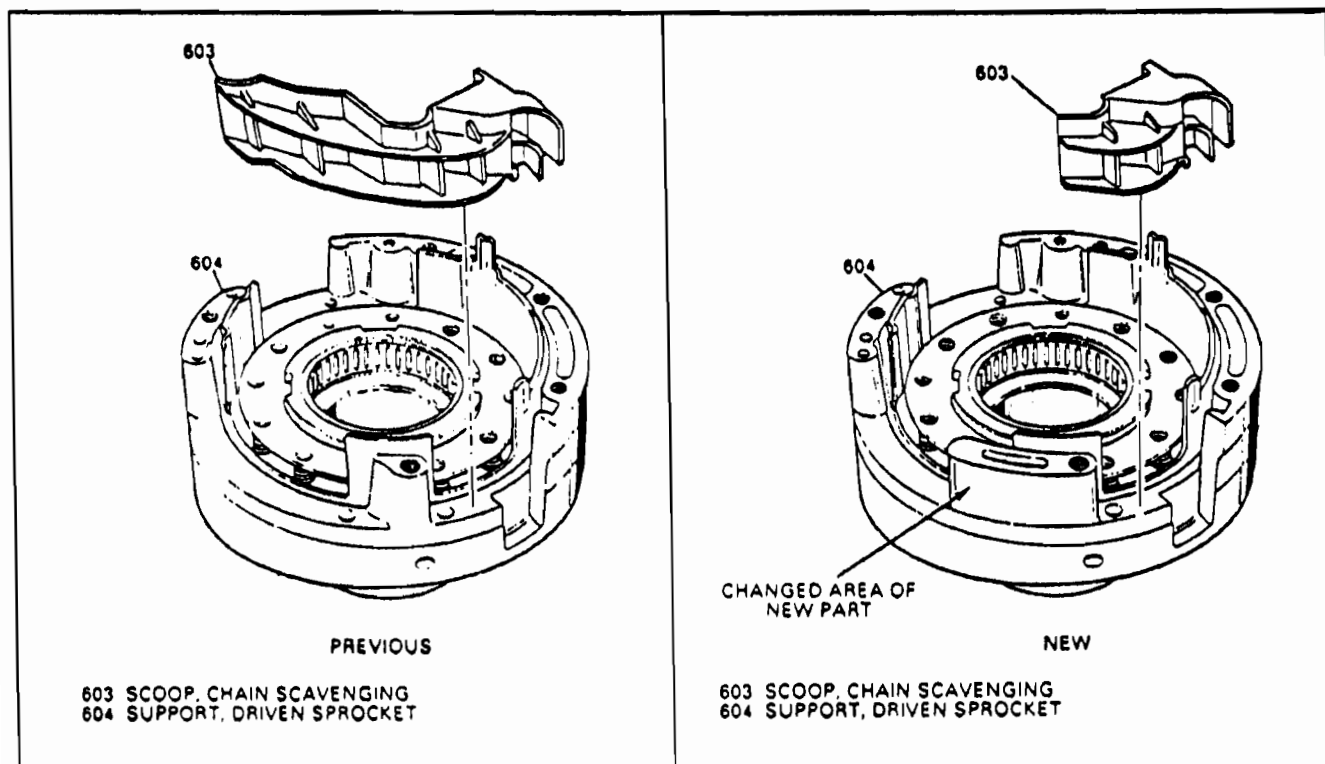
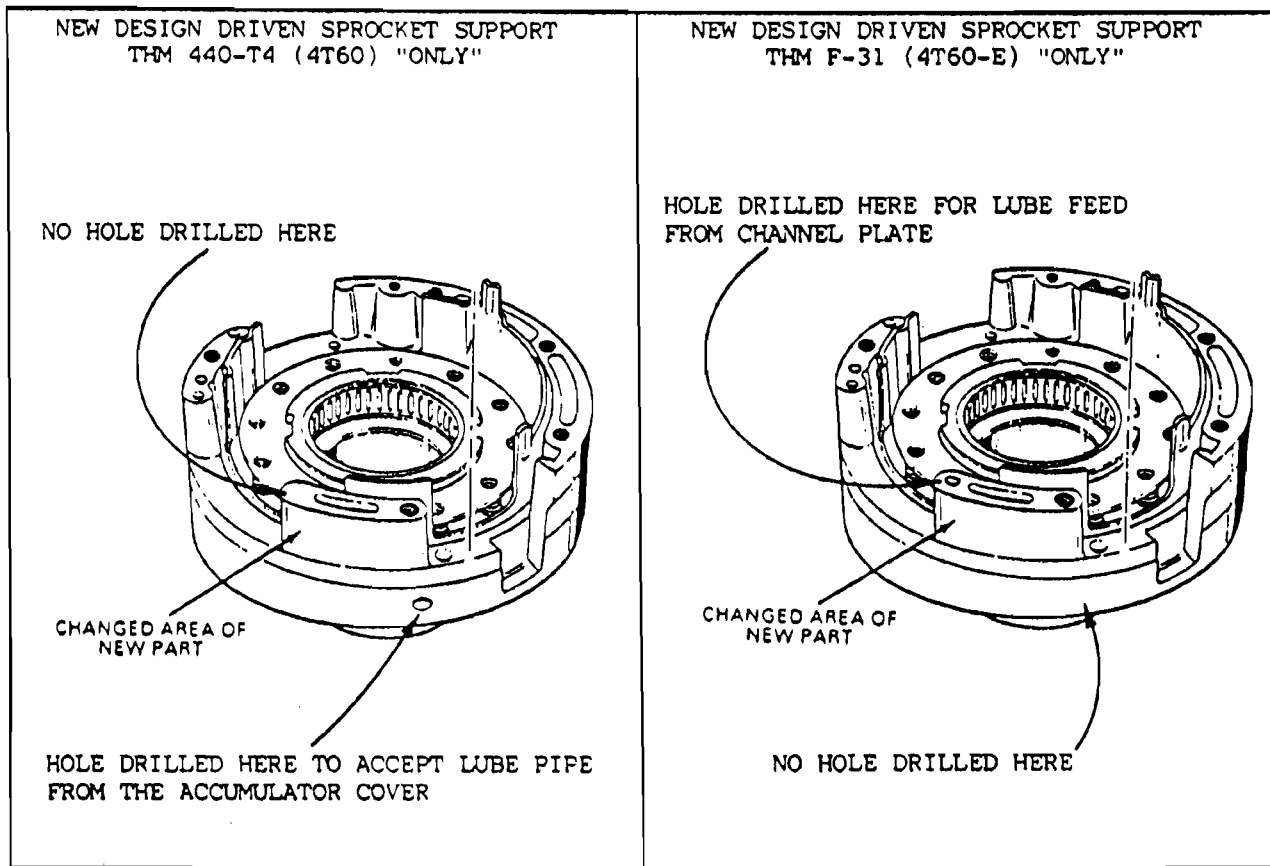

Figure 35
Figure 36
CHANGE: A new Driven Sprocket Support and Chain Scoop is now used in production on all 1990 vehicles equipped with a THM 440-T4 (4T60) transaxle. (See Figure 35).
- (1) **DRIVEN SPROCKET SUPPORT** - The new design sprocket support has an increased width of one leg on the support (See Figure 35). The wider leg on the new support will accommodate a new lube feed passage for the new THM F-31 (4T60-E) transaxle. Lube feed for the THM F-31 (4T60-E) will be thru the channel plate, instead of the pipe from the accumulator cover as on the THM 440-T4 (4T60) (See Figure 36).
- (2) **CHAIN SCOOP** - The new sprocket support requires the chainscoop, both black and white, to be about 1/3 the length of the previous chain scoop. (See Figure 35).